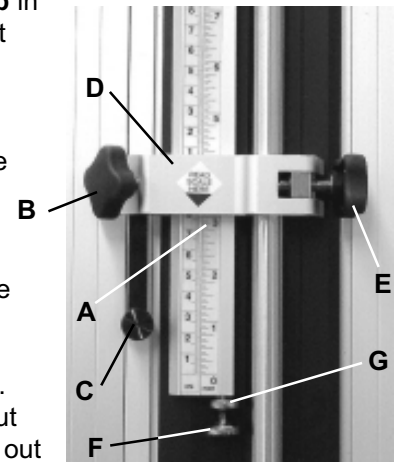

Figure 8
2. Set the **Upper Measuring Stop Scale (A)** (Figure 8) to the same border width as the **Locator Pin** and lock it in place with **Locking Knob B**.
3. Slide the **Upper Measuring Stop (D)** toward the mat while holding the **Spring Button (C)** down on the slip sheet. When the **Spring Button** touches the upper edge of the mat, lock the **Upper Measuring Stop** in position with its **Locking Knob (E)**.
4. Move the **Cutting Head** against the **Stop Screw (F)** on the **Upper Measuring Stop**. Rotate the bevel cutting blade until it touches the mat. It should contact the mat about 1/8" (3mm) beyond the upper horizontal pencil line. If not, turn the **Stop Screw** in or out until the blade is in the correct position. Lock the **Stop Screw** in place with its **Jam Nut (G)**.